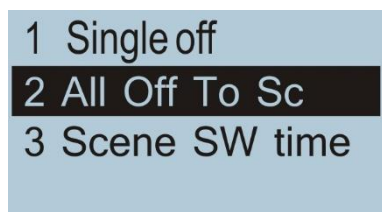

Figure 7.22
3. Set the action of camera switching to panorama after turning off all microphones according to menu in Figure 7.22. The preset points 1 ~ 4 of panorama are called by the camera.